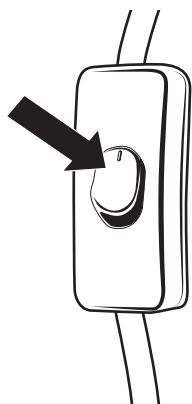
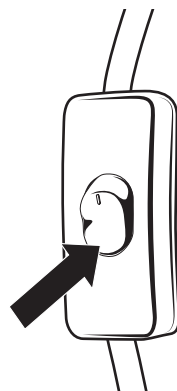

Fig. 7
Fig. 8
1. Press the side of the rocker switch marked with "I" to turn the light on (**Fig 7**). Press the other side to shut off the light (**Fig 8**).